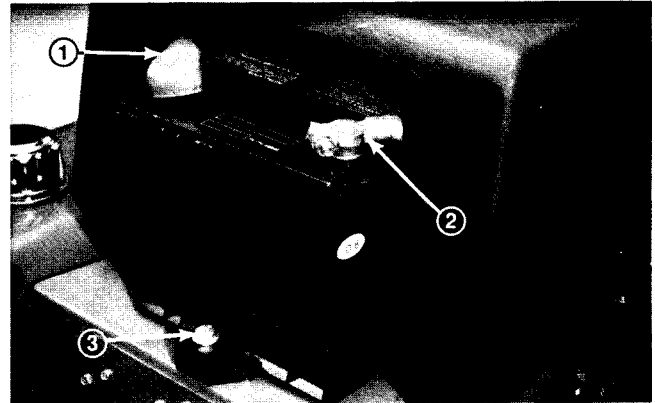

Figure 53
3. Remove the negative (-) and positive cables from the battery (Fig. 53). Loosen the battery retaining bolt and remove the battery.